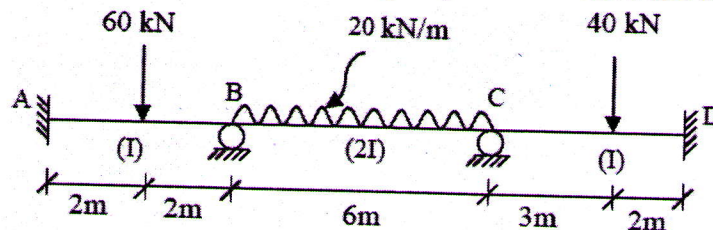

Fig.5
- 5 a) Differentiate between rotational factor and rotation contributions. (5)
b) Analyse the continuous beam shown in fig.5 by Kani's method and draw the BMD. (10)